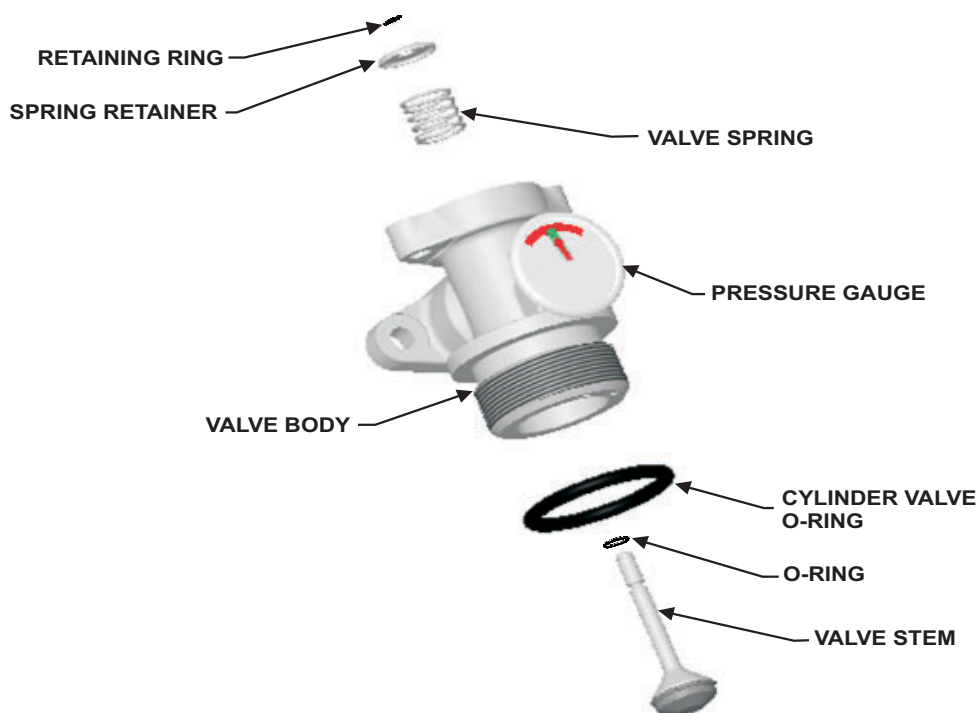

Figure 5-27. Valve Assembly
4. Put a light coating of lubricant (supplied in the Valve Rebuild Kit) on the valve stem O-ring. Do not grease the bonded seal on valve check (see Figure 5-27).